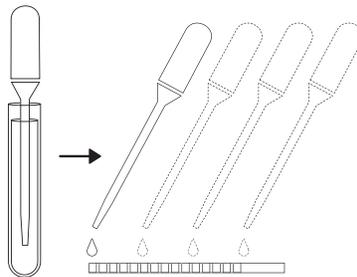

Fig. 12A
6. Apply urine sample to strip. One method for application is the use of a dropper pipette to drop urine over entire strip, completely wetting each pad (Fig. 12A). Alternatively, strip may be dipped into urine sample, completely wetting every pad. (Fig. 12B).